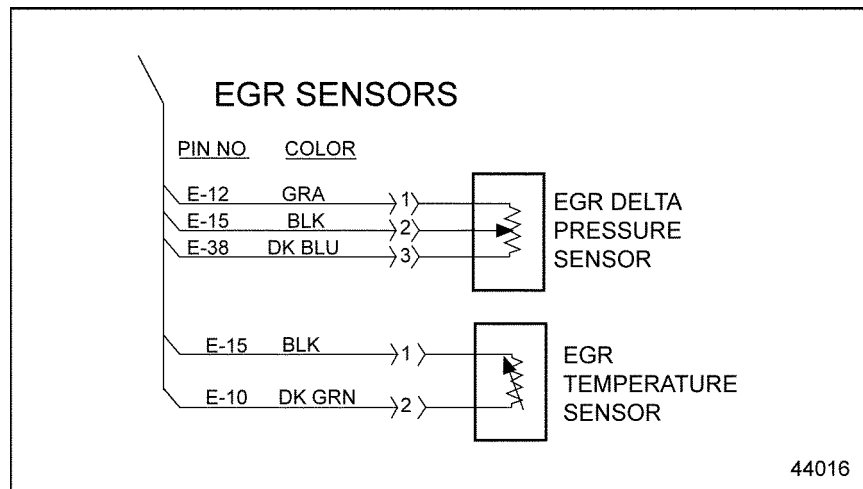

Figure 71-2 EGR Temperature Sensor Wiring
2. Measure resistance between cavities 1 and 2. See Figure 71-2.